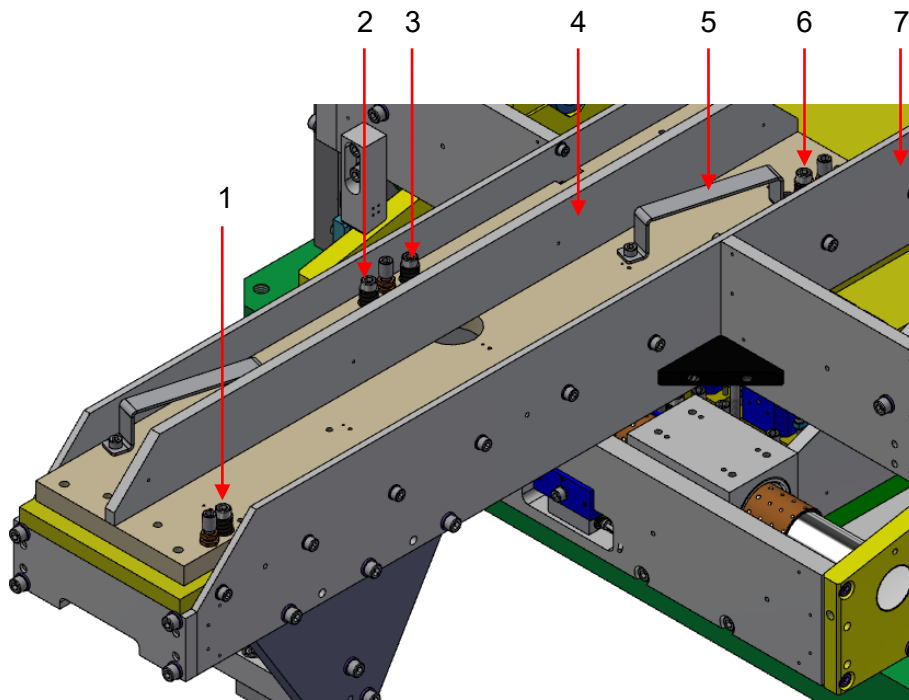

Figure 81: M7 mirror cradle
After removing all four spring loaded fixing screws (#1, 2, 3, 6 in Figure 81) the mirror holder is free and can be lifted from the vacuum chamber by using the two available handles (#5 in Figure 81).
- Insert the mirror holder into the mirror cradle and tighten the fixing screws #1, 2, 3, 6 indicated in Figure 81.
- Dismount the mirror holder handles if necessary, # 5 in Figure 81.